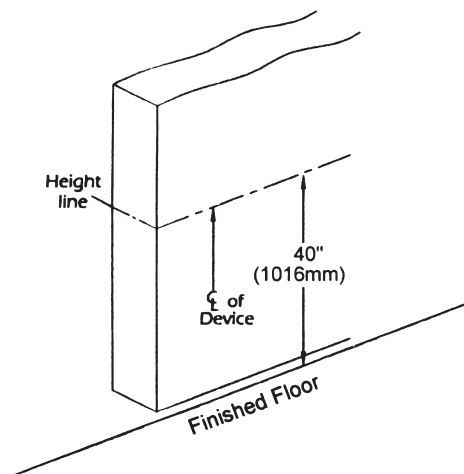

Figure 1-1
1. Mark a center line of the exit device by drawing a horizontal line across the door, door edge and jamb 40" above the finished floor (see Figure 1-1).